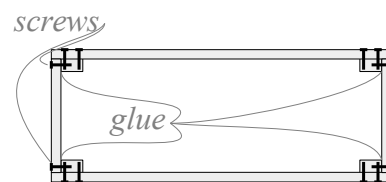

fig. 2
- 4) Glue and screw the sides into the corner made by the front/back and legs – fig. 2. [Tip: assemble it upside down to help create a flat top.]